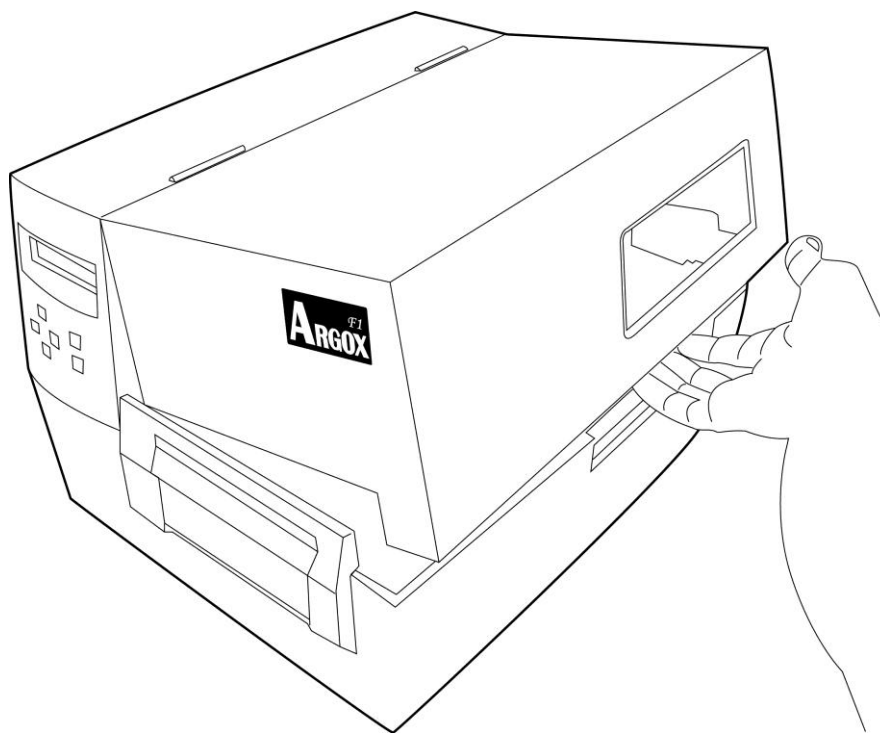

Figure 1
1. Lift the top cover and front access door to expose the media compartment. (Figure 1)